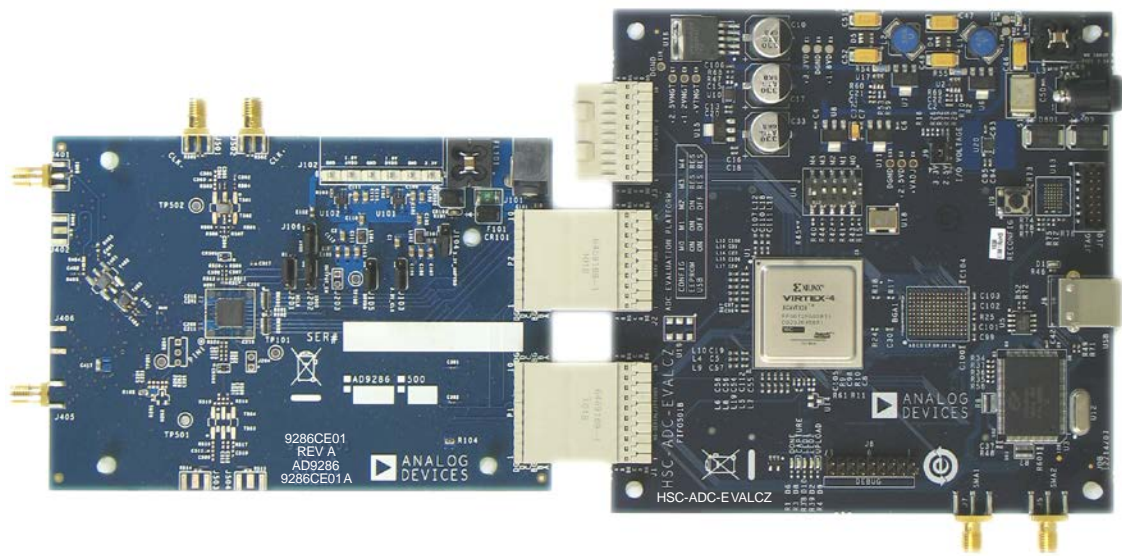
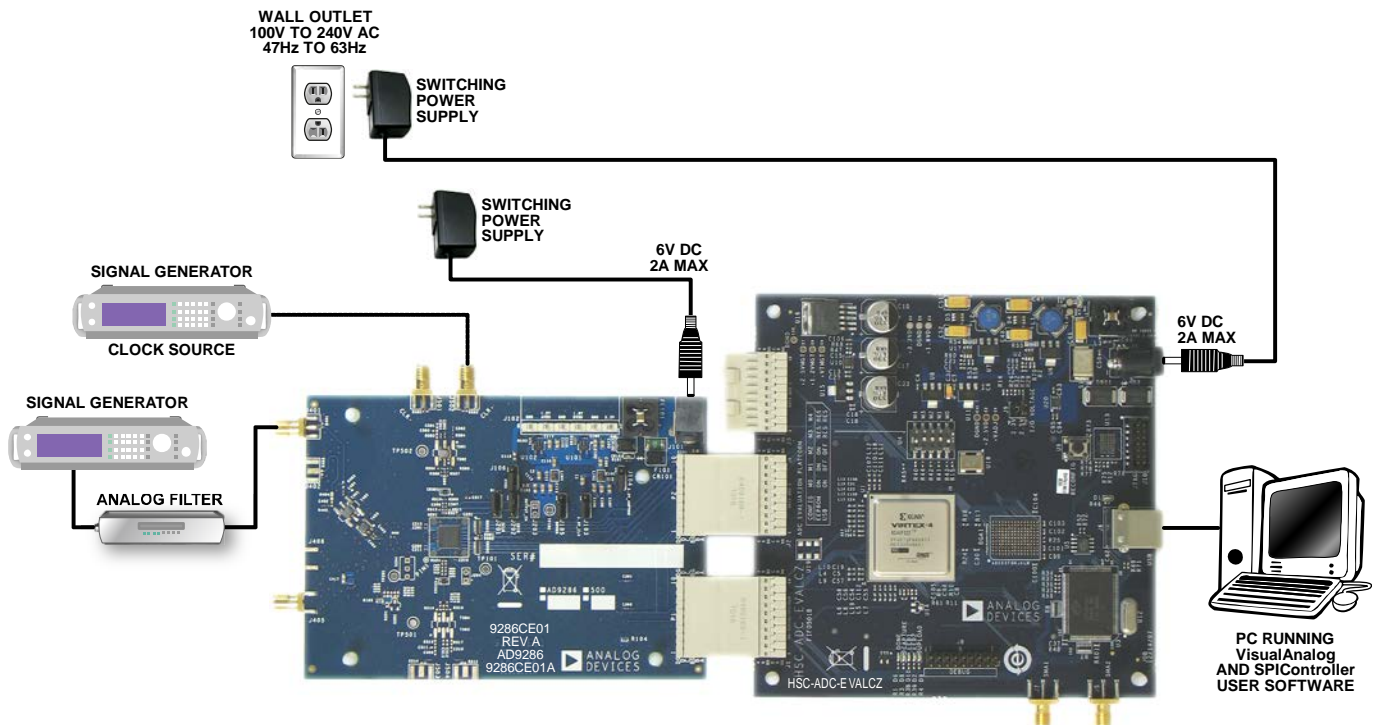

Figure 1. **AD9286** Evaluation Board and **HSC-ADC-EVALCZ** Data Capture Board
Figure 2. Evaluation Board Connection
The AD9286 evaluation board provides all of the support circuitry required to operate the AD9286 in its various modes and configurations. Figure 2 shows the typical bench characterization setup used to evaluate the ac performance of the AD9286. It is critical that the signal source used for the analog input and clock have very low phase noise (<1 ps rms jitter) to realize the optimum performance of the signal chain. Proper filtering of the analog input signal to remove harmonics and lower the integrated or broadband noise at the input is necessary to achieve the specified noise performance.
1. Connect the evaluation board to the data capture board, as shown in Figure 1 and Figure 2.